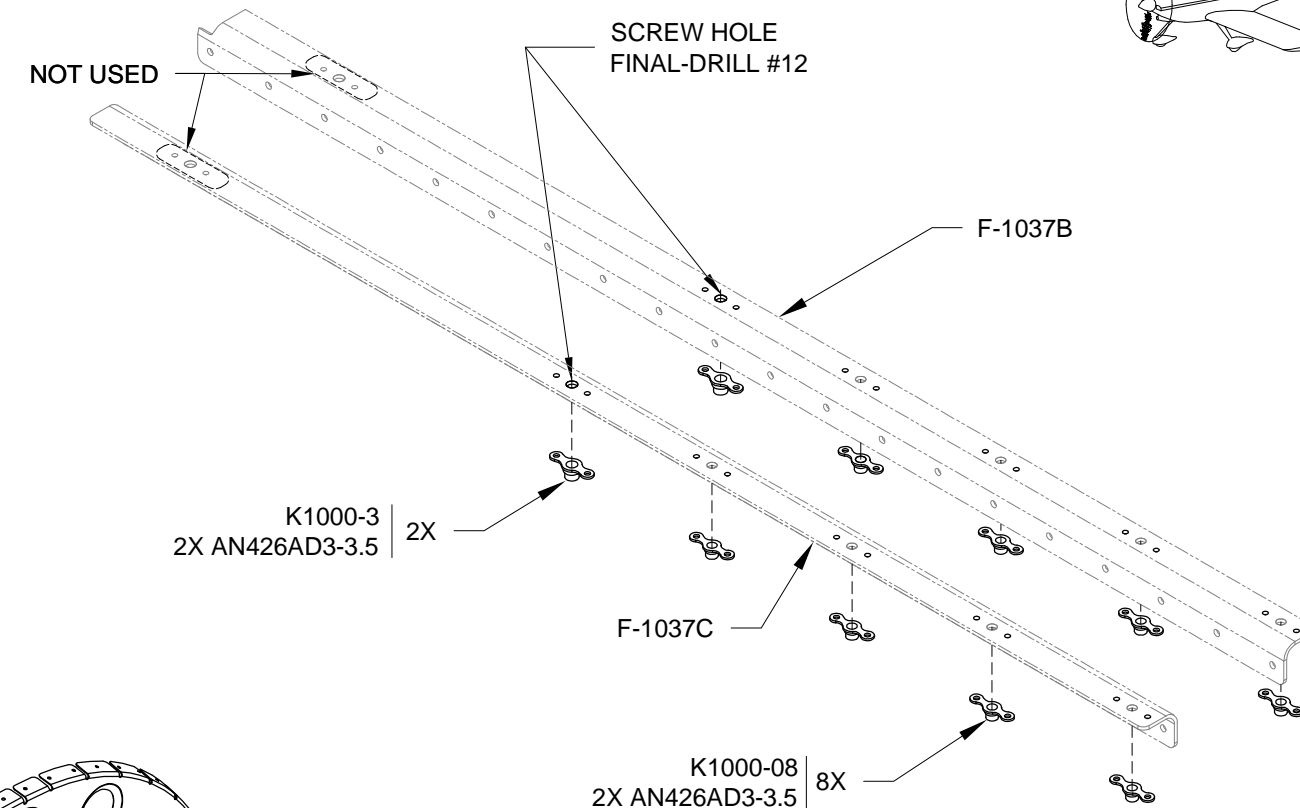

FIGURE 3: BATTERY ANGLES
NOTE: The forward 2 sets of nutplate holes are for the RV-10 and not utilized in the RV-14. See Figure 3.
Step 6: Final-Drill #40 the nutplate attach holes on the F-1037B and F-1037C Battery Angles. See Figure 3.
Final-Drill #12 the screw hole locations called out in Figure 3.
Step 8: Rivet the nutplates to the F-1037B and F-1037C Battery Angles as shown in Figure 3.